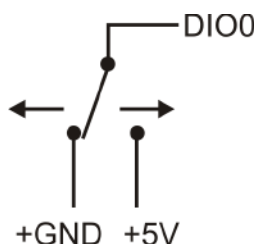

Figure 11. Schematic showing switch detection by digital channel DIO0
When you configure the digital bits for input, you can use the OM-USB-5203 digital I/O terminals to detect the state of any TTL-level input. Refer to the schematic shown in Figure 11. If you set the switch to the +5V input, DIO0 reads *TRUE* (1). If you move the switch to GND, DIO0 reads *FALSE* (0).